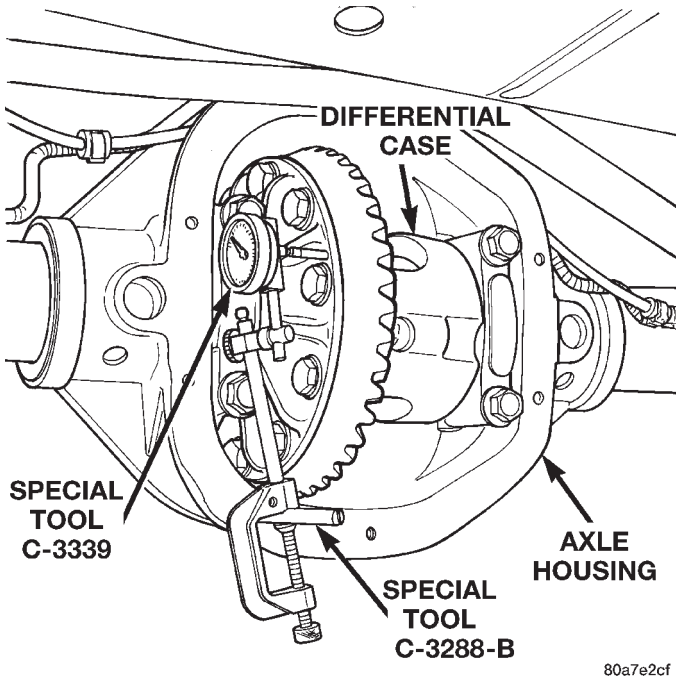

Fig. 74 Differential Side play Measurement
- (8) Thread guide stud C-3288-B into rear cover bolt hole below ring gear (Fig. 74).
- (9) Attach dial indicator C-3339 to guide stud. Position the dial indicator plunger on a flat surface on a ring gear bolt head (Fig. 74).
- (19) Install differential case and dummy bearings in axle housing (without shims) and tighten retaining cap bolts.
- (20) Position the dial indicator plunger on a flat surface between the ring gear bolt heads (Fig. 74).
- (21) Push and hold differential case toward pinion gear.
- (22) Zero dial indicator face to pointer.
- (23) Push and hold differential case to ring gear side of the axle housing.
- (24) Record dial indicator reading.
- (25) Subtract 0.002 in. (0.05 mm) from the dial indicator reading to compensate for backlash between ring and pinion gears. This total is the thickness of shim required to achieve proper backlash.